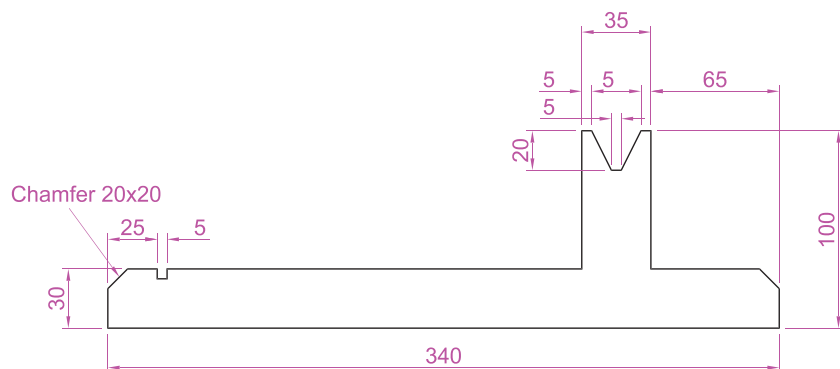

Fig. 13.10 Third example – outline for solid of revolution
3. In the **Front** viewport (top left), construct a pline outline to the dimensions in Fig. 13.10.